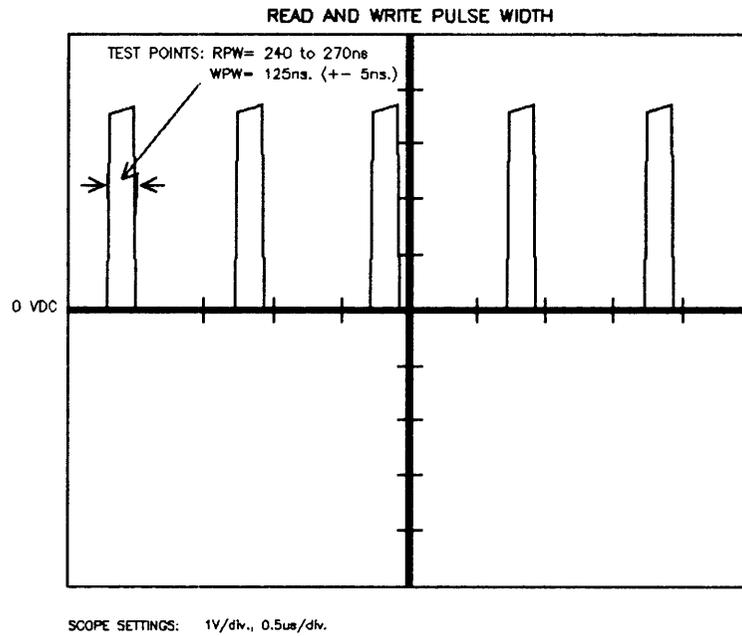

Figure 4-3. Read/Write Pulse Width.
3. Observe the waveform pulse-width (see Figure 4-3). The pulse width should be between 230 and 270ns. measured at the 50% voltage point. If the pulsewidth is on either side of the specification just given, replace the controller PCA.